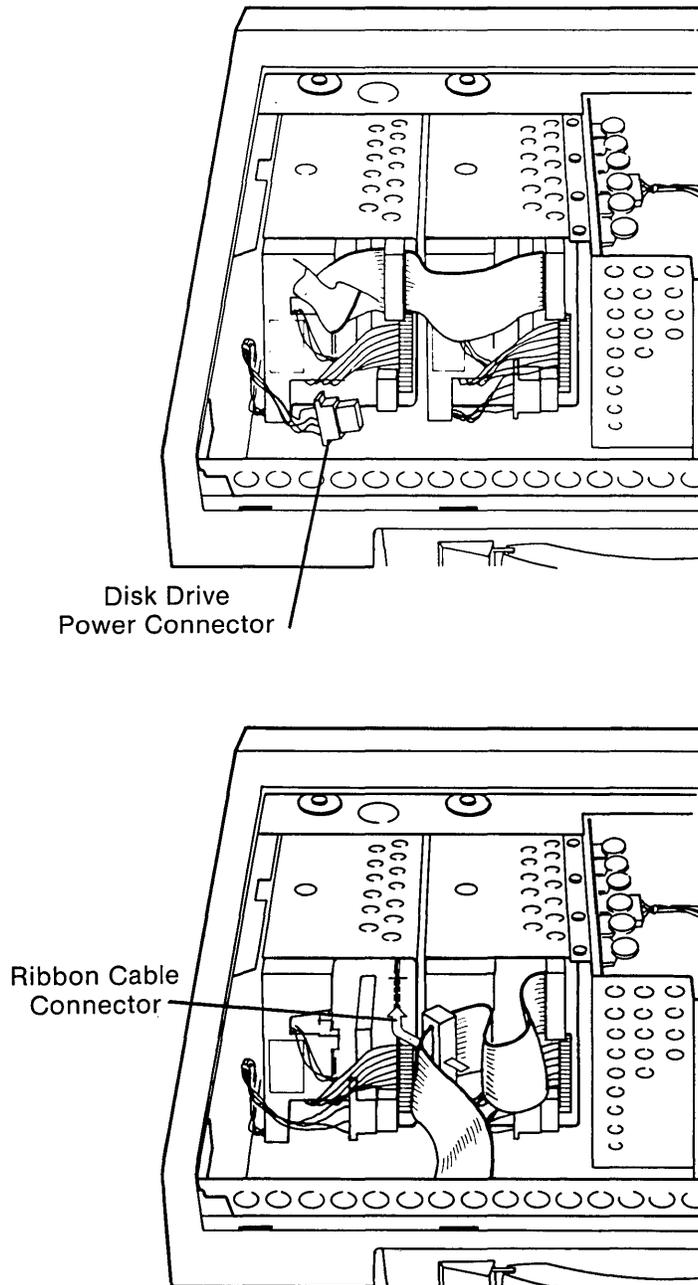

Figure 11-22. Connecting the Drive Power Cable and Ribbon Cable.
12. Attach the white power supply connector to the bottom of the second disk drive (see Figure 11-22).
13. Set the second disk drive in position and connect the ribbon cable connector on the top of the drive (shown in Figure 11-22).
18. Reconnect the ribbon cable connector from the disk drive cable to the floppy/printer board (refer to Figure 11-22).